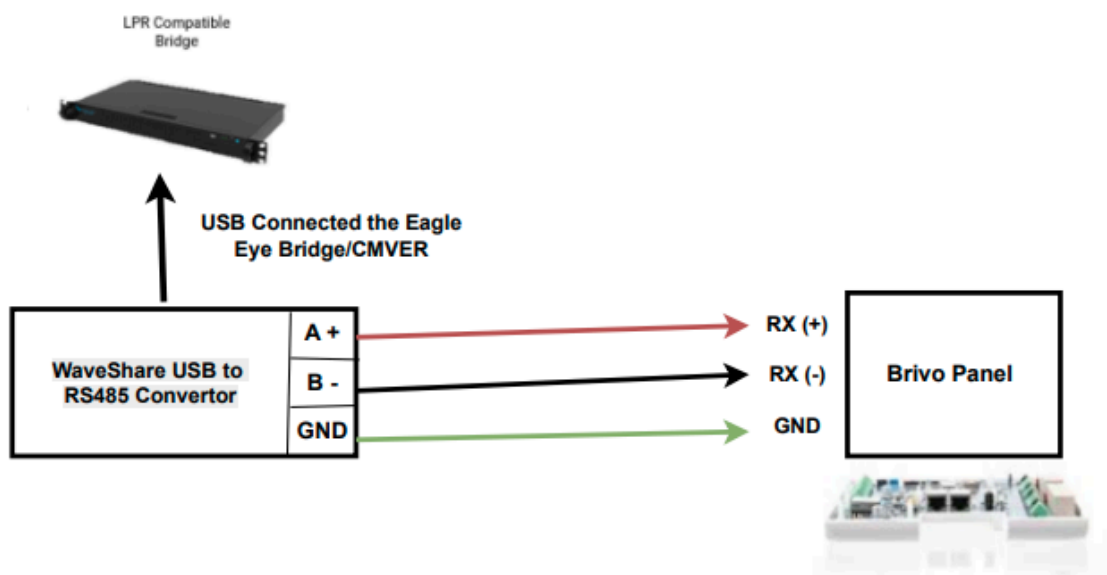

Figure 26: Eagle Eye/Brivo connections diagram
- **The distance between the Eagle Eye Bridge/CMVR and the Brivo Panel should be less than 1 meter.** If the cable length exceeds 1 meter, it can impact connectivity due to signal loss, and it will be more difficult to diagnose remotely via Bridge/CMVR. See Figure 26 for a diagram of Eagle Eye and Brivo connections.